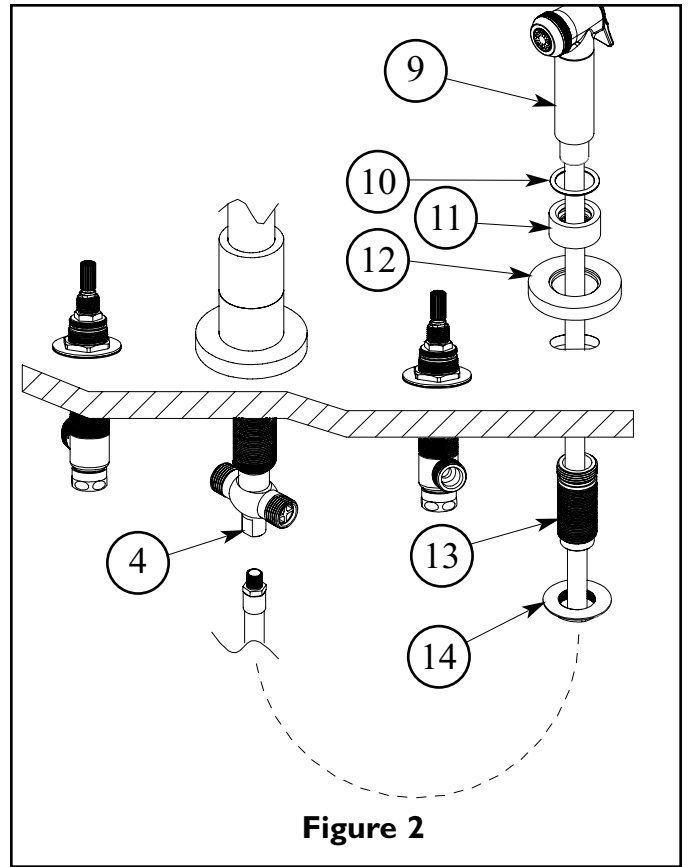

Figure 2
3. Insert vegetable spray HOSE (9) through BONNET (11) with O-RING (10), ESCUTCHEON (12) and mounting surface. From underside of mounting surface, insert HOSE (9) through SHANK (13), threading into BONNET (11). Insert Hose (9) through flange NUT (14), threading onto SHANK (13) to secure in place. Attach other end of vegetable spray HOSE (9) to base of diverter TEE (4). See Figure 2.